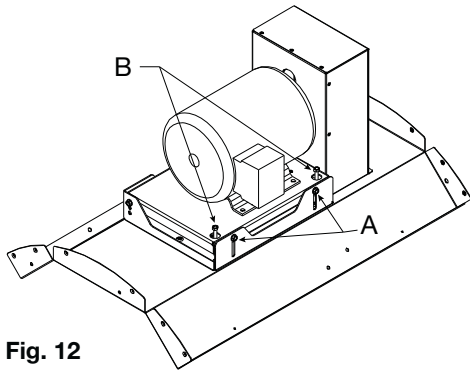

Fig. 12
7. Check belt tension. Belt tension can be adjusted by loosening two fasteners marked “A” in Fig. 12 below. The motor plate can then be adjusted up or down using the two adjustment bolts marked “B” in Fig. 12. Ensure that both adjustment bolts are altered by the same number of turns. Belt tension should be adjusted to allow 1/64 inch of deflection per inch of belt span. For example, a 15 inch belt span should have 15/64 inch (or about 1/4 inch) of deflection with moderate thumb pressure at the mid-point between pulleys (see Fig. 13). Overtightening will cause excessive wear and noise. Too little tension will cause slippage at start-up and uneven wear. Retighten “A” once tension is correct.